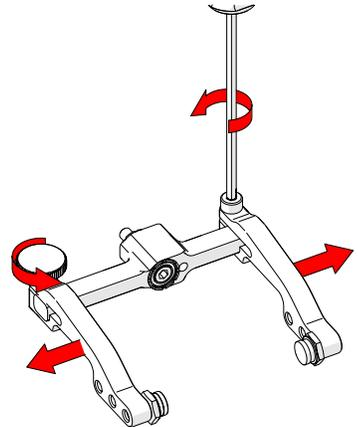

Fig. 91 - Remove probe holder arms
3. Loosen the probe holder arm adjustment knob and the arm clamp screw. Slide the probe holder arms off the yoke (Fig. 91).